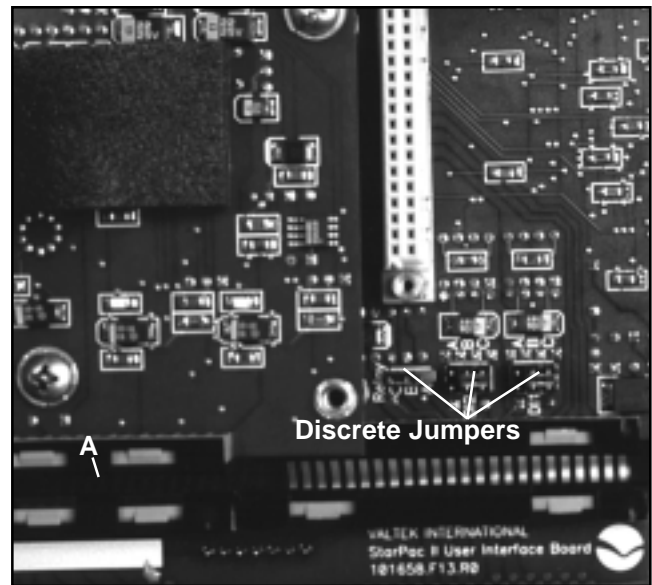

Figure 15: Discrete Jumpers Under Personality Module
- CAUTION: When sliding the new board stack in place, push gently on the connector strip to slip it behind the screw boss before installing the lower left-hand screw of the board stack. Failure to do this will cause the strip (A, Figure 15) to be pinched between the boss and board, leading to damage of the connector strip.**
Three sets of jumpers (Figure 15) are located on the main circuit board underneath the personality module. These jumpers are used to configure the operation of discrete inputs and outputs. These are labeled Relay, DI 1, and DI 2.